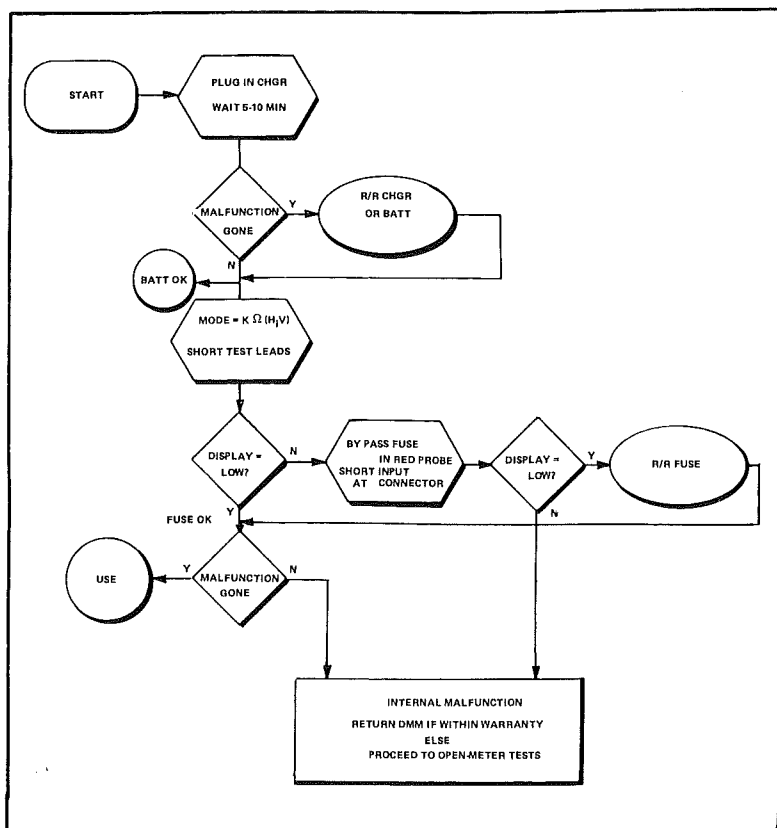

Fig. 4-3. Test TS4-1, Closed Meter Testing
a. The first test sequence is performed with the "cased" meter. The sequence is fully detailed in the illustration of Figure 4-3.